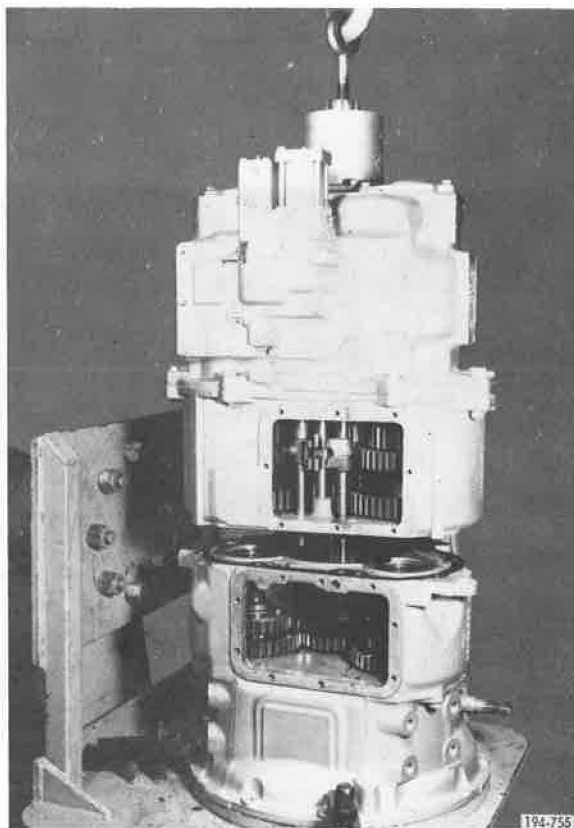

Figure 28. Removing Main Case and Rear Case
27. Remove main case and rear case from front compound case, using a hoist and a lifting eye. Keep cases in good alignment while separating, to prevent binding which could damage bearings. See Figure 28.